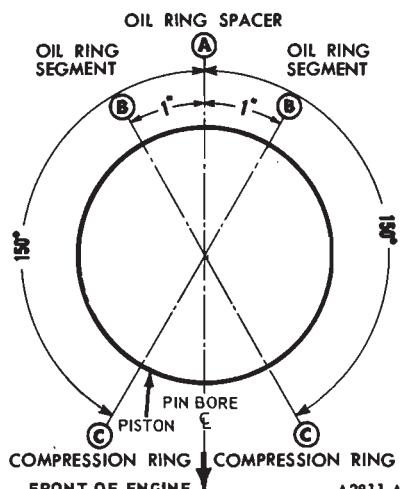

FIG. 33—Piston Ring Spacing
3. Make sure that ring gaps are properly spaced around circumference of piston (Fig. 33).